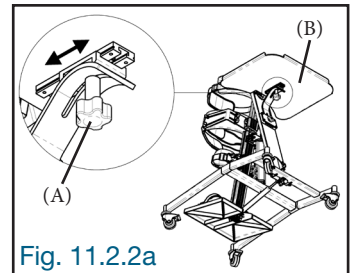

Fig. 11.2.2a
Slightly loosen the locking knob (A) under the table and slide the table (B) forward or backward. At the desired position, tighten the locking knob (A) firmly to secure the table in place (Fig. 11.2.2a).